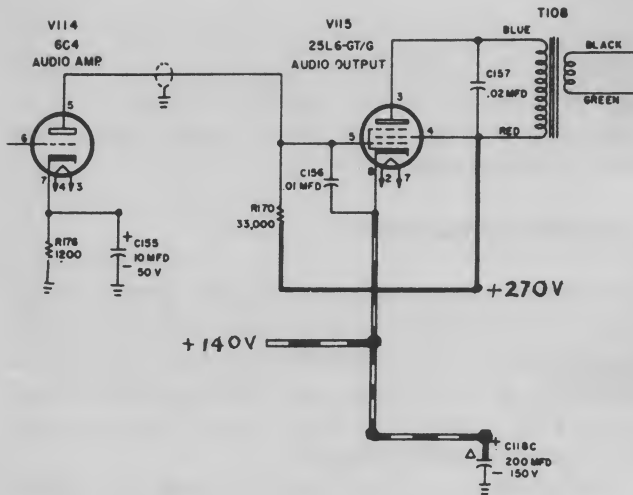

Fig. 8-3. Audio output voltage regulator: Hallicrafter AR1200D.
*e. Voltage-Regulator Circuits.* These circuits, sometimes incorporated into the audio output tube (Fig. 8-3), may cause trouble in the low B+ line. Troubles in this circuit may be due to either V115, V114, or their associated circuitry, because of the direct coupling between the two tubes. It is evident that a shorted V114 would cause the grid of V115 to go more negative, while weak emission from V114 would cause the grid to go more positive. This is due to the fact that the grid bias on V115 is par-